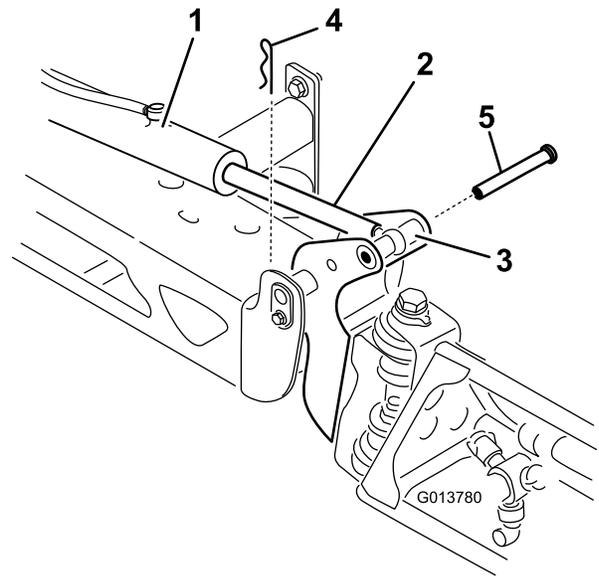

Figure 71
2. Remove the hairpin from the clevis pin (Figure 71).
3. Lift up on the section and remove the clevis pin and slowly lower the section to the ground (Figure 71).
7. While supporting the spray section, insert the clevis pin through both boom pivot and actuator rod (Figure 71).